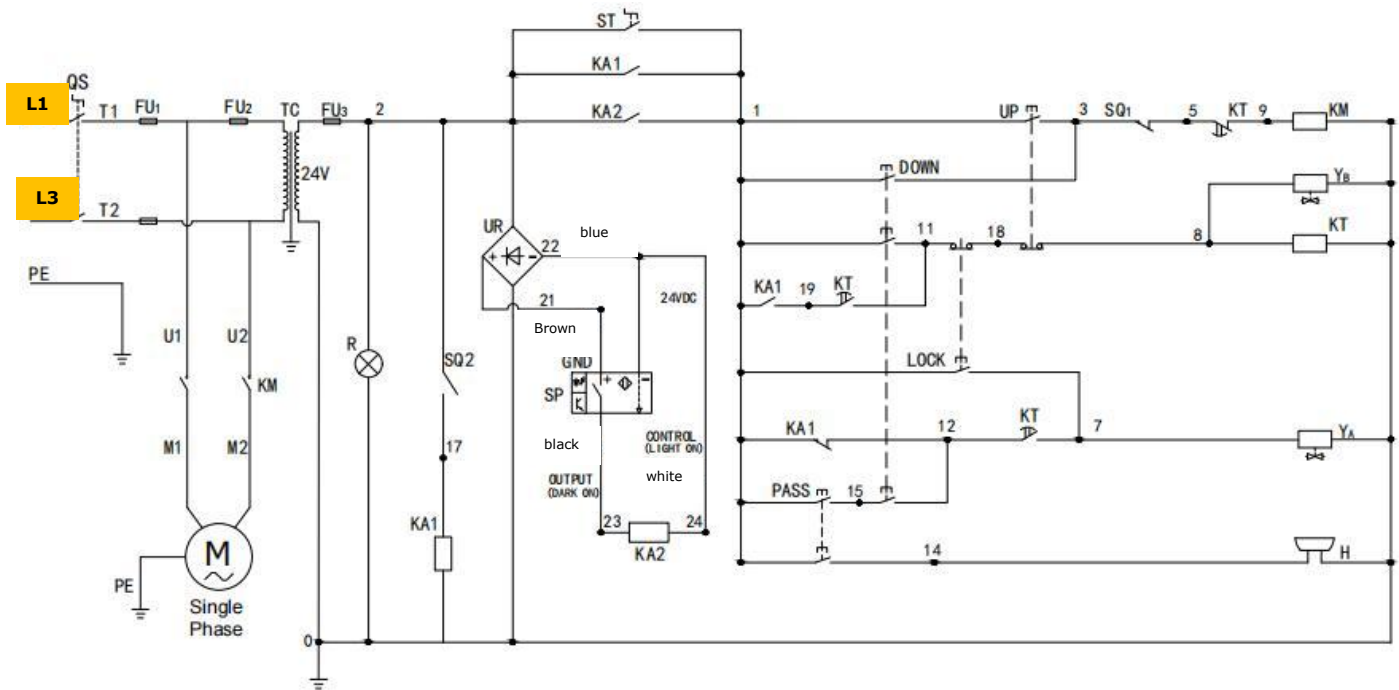

Fig.18
2.2 Single phase Circuit Diagram (See Fig. 18)